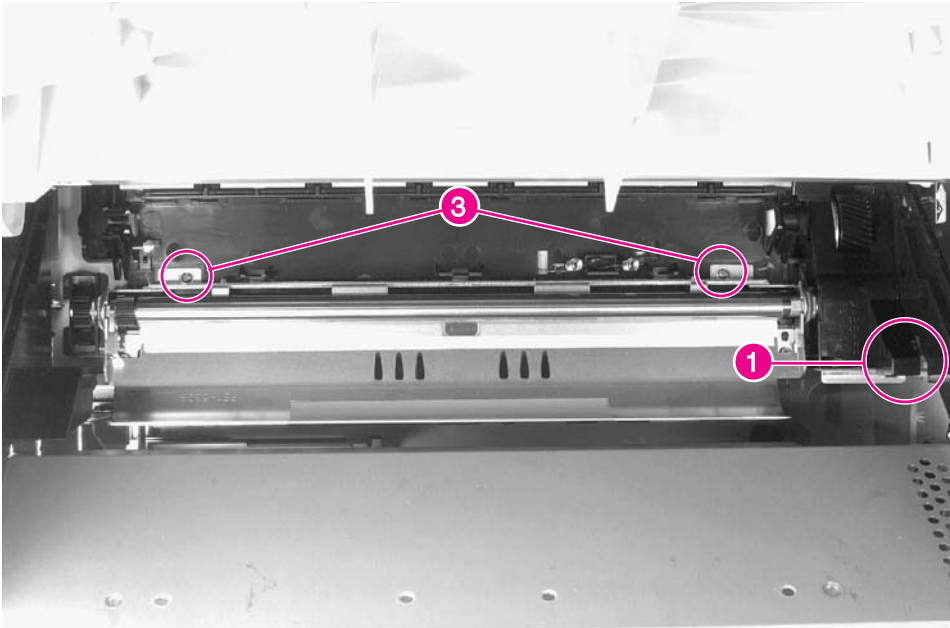

Figure 6-51 **Registration Assembly (1 of 3)**
- 3** Remove the Main Gear Train Shield. Release the retainer clip (figure 6-51, callout 1), and lift the forward end up.
- 4** Remove 2 screws at rear of assembly (figure 6-51, callout 3).